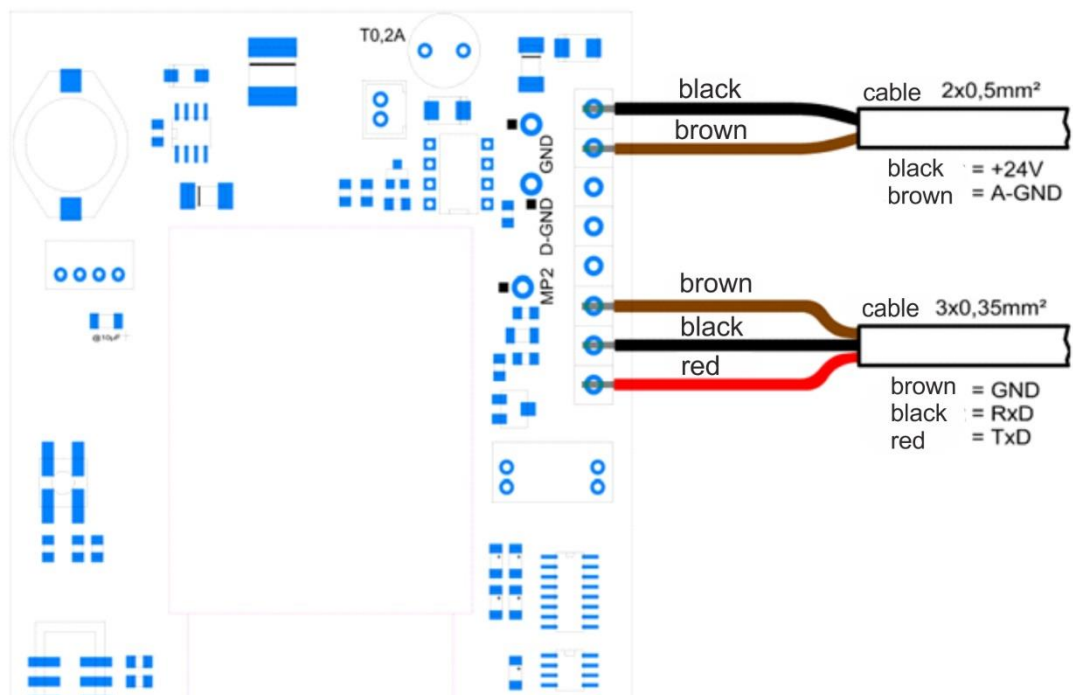

Figure 8
4. Open the cover and mount the cables. There are 2 cables, one three-pole and one two-pole (see Figure 8).